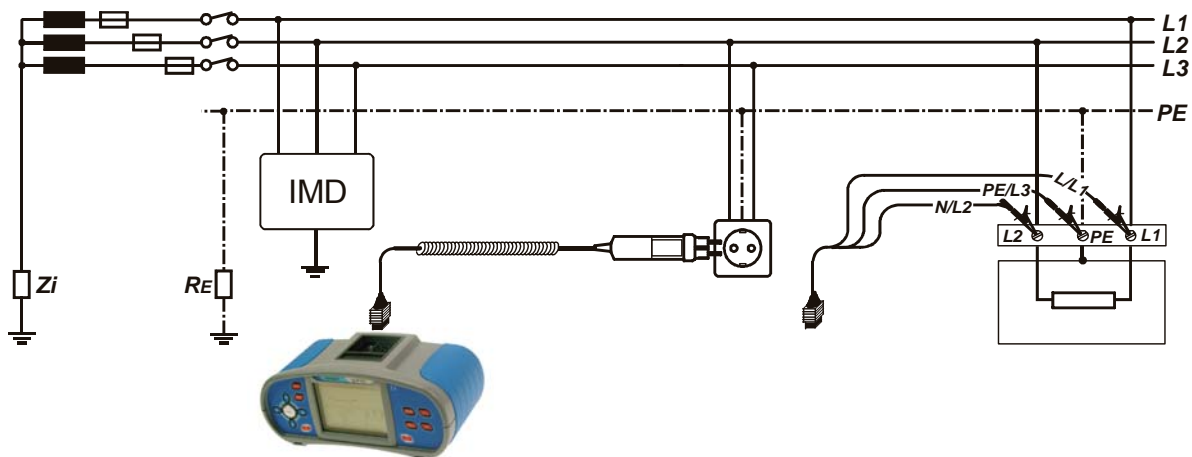

Figure B.5: Connection with plug commander and 3-wire test lead
Step 3 Connect test cable to the item under test. Follow the connection diagram shown in figure B.5 to perform first fault current measurement. Use the **Help** function if necessary.
Step 3 Connect test cable to the item under test. Follow the connection diagram shown in figure B.5 to check insulation monitor device. Use the **Help** function if necessary.